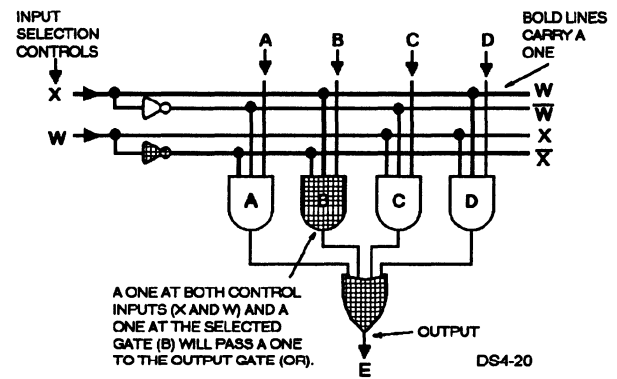

Figure 4-20.—Example of a selector circuit.
- **Selectors** —Some registers have no input selection capability and require the selection of source information to be made before actual input gating. They expand the number of input data paths to a register. Refer to figure 4-20.